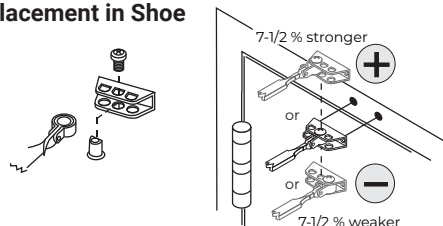

Figure 5 - Opening Door Control
- "Backcheck" valve controls the strength of cushioning in Backcheck Range. NEVER close this valve completely, it is not to provide a positive stop. (Figure 5 and Figure 6)